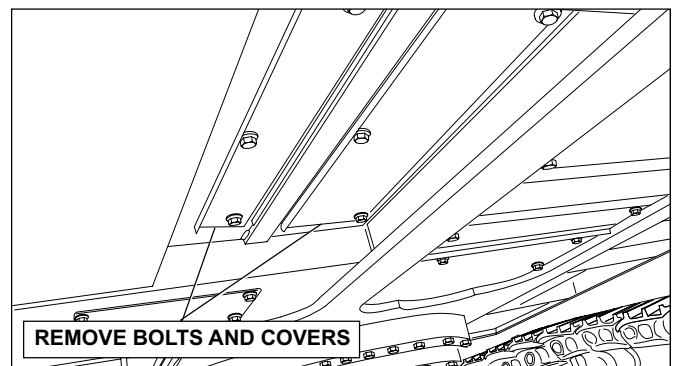

FIGURE 4.27C
3. Remove radiator lower access cover from bottom of machine. See Figure 4.27C.